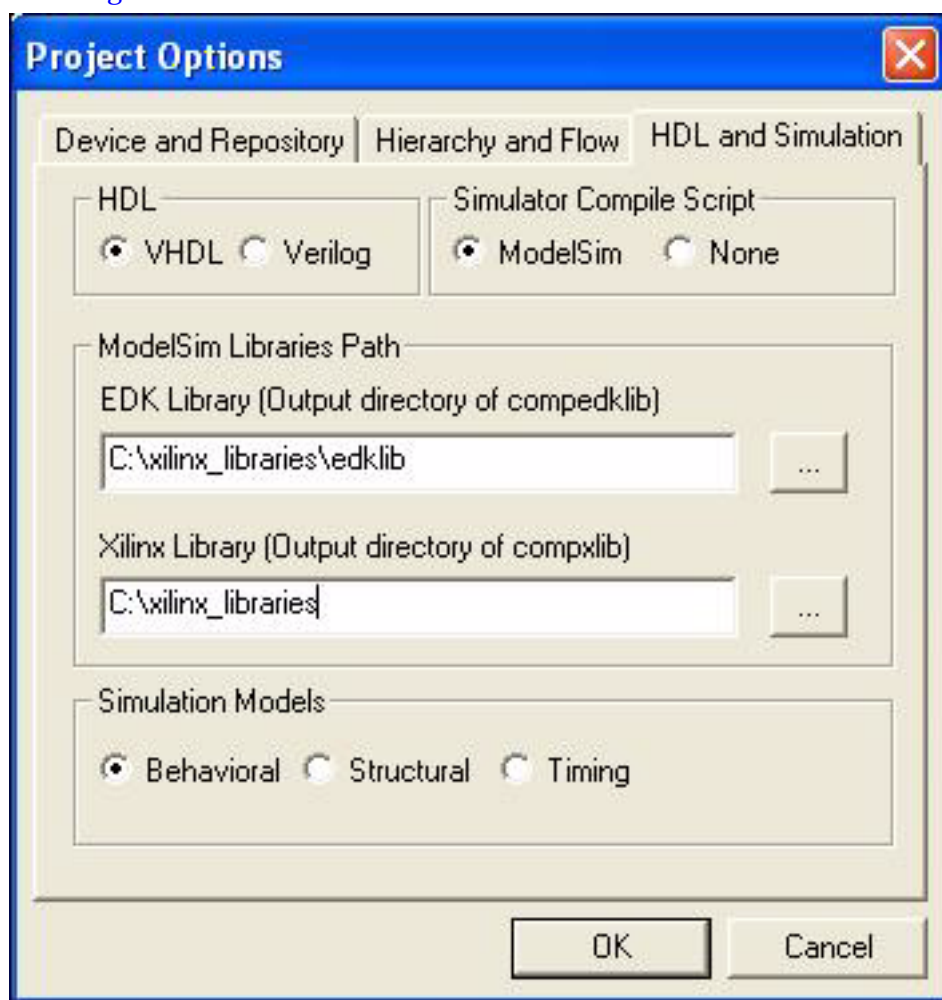

Figure 20: HDL and Simulation Tab
1. In XPS, select **Options** → **Project Options**. Select the **HDL and Simulation** tab as shown in Figure 20.